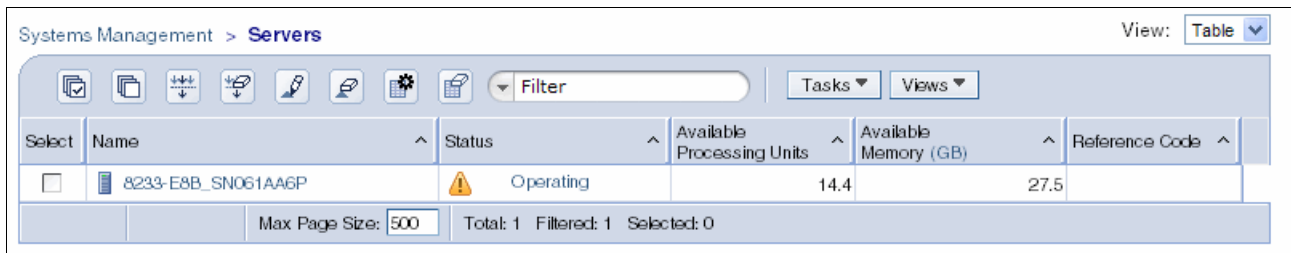

Figure 5-18 Managed System going to Operating state
3. After the recovery completes, the HMC displays all partitions, in the same state as they were in IVM. The status resolves to the Operating state, as shown in Figure 5-18 and Figure 5-19 on page 184.